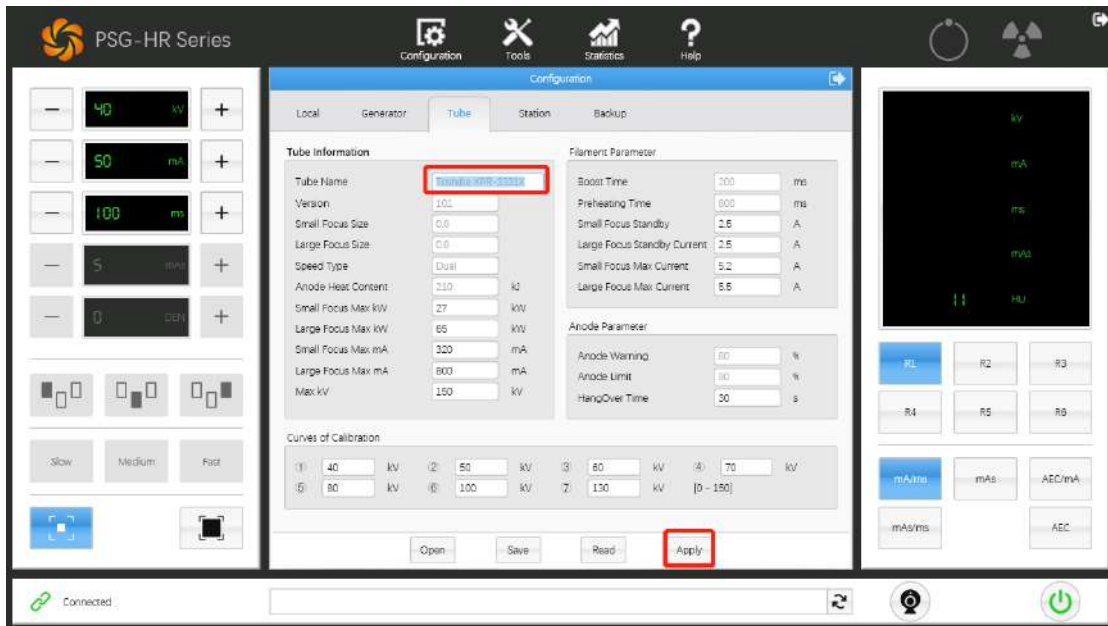

Figure 3-51 Tube application interface1
After selecting the corresponding tube model, please click "open (O)" to check again whether the Tube Name is consistent at this time. If the types are consistent, please click "Apply" as shown in Figure 3-51.